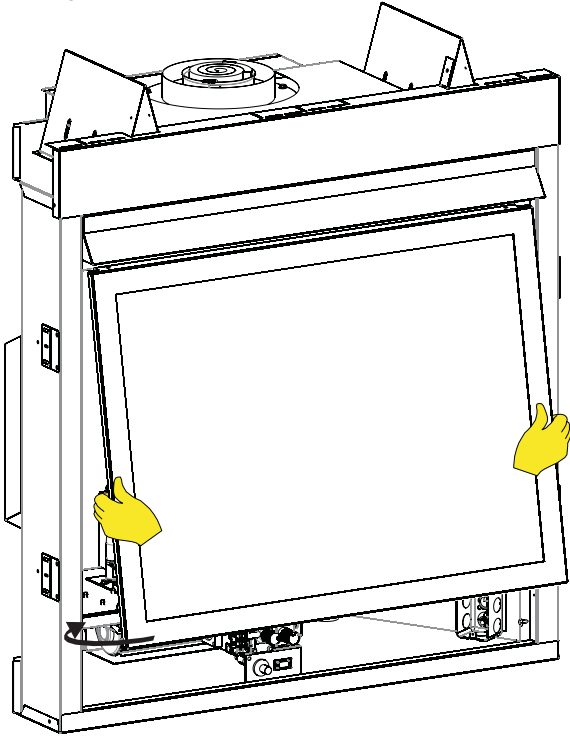

Figure 84
2. Gently lower the glass frame into place. See Figure 84 for proper glass frame placement.